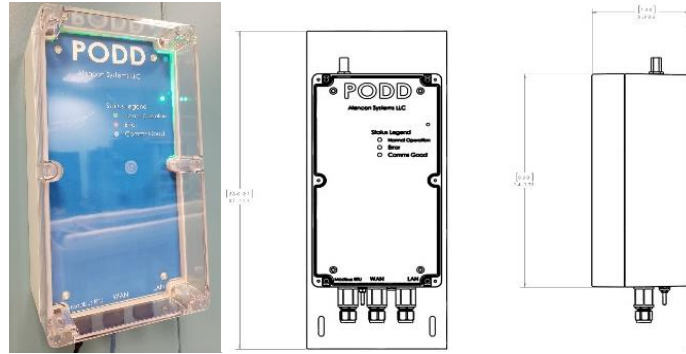
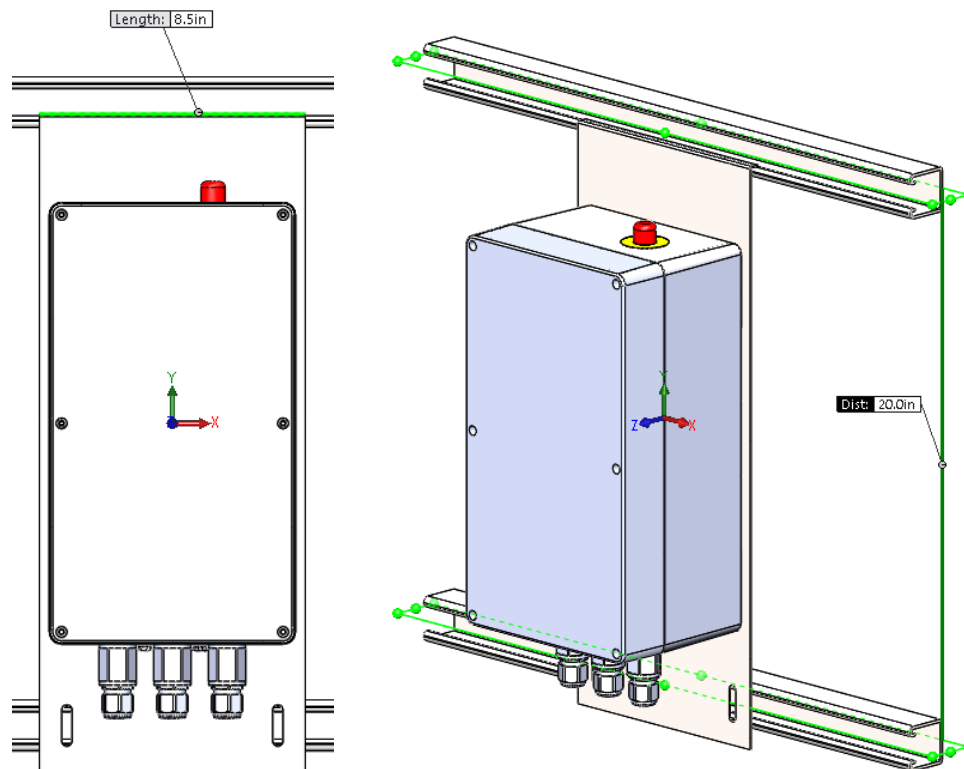

FIGURE 6: PODD UNIT (3 VIEWS)
FIGURE 7: PODD MOUNTED ON UNISTRUT
The PODD (Figure 6) will need to be mounted outside of the SPOT Box cabinet. The PODD mounting plate is designed to be mounted on standard 1-5/8" channel Unistrut (Figure 7). If mounting Unistrut on the BOX enclosure, locate the PODD enclosure in an area defined in Section 2 to avoid interferences.
- Customer supplied Unistrut must be mounted 20" apart on centerline ( Figure 7).